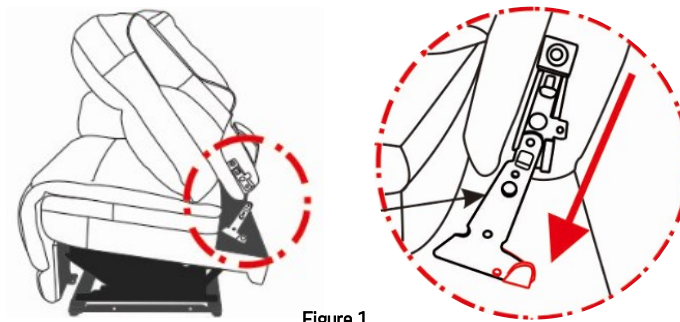

Figure 1
2. Connect the seat backs to the bases of each module by sliding the metal receivers on the seat back into the metal posts on the base. Ensure the correct seat back has been selected and that both sides align before pushing down firmly into place (Figure 1). The seat backs are heavy. Ask for help if you need assistance aligning the posts and receivers.